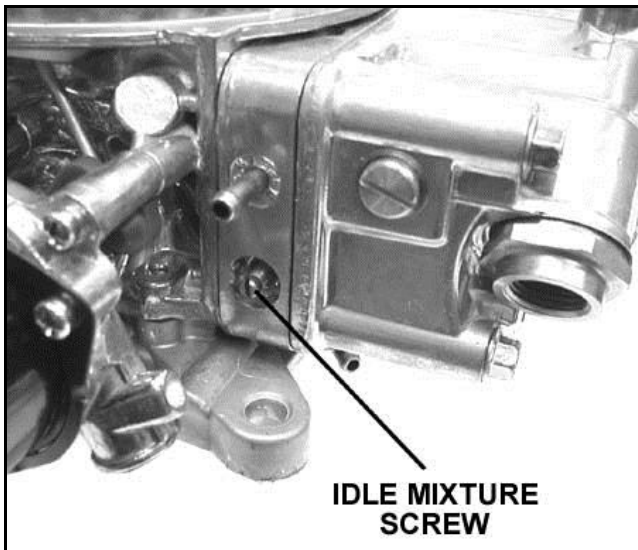

Figure 3
3. Adjust each idle mixture screw (Figures 3 & 4) 1/8 turn at a time, alternating between each screw. Turn them equally, until you achieve the highest possible vacuum reading without adjusting the curb idle speed screw. Turn screws in to lean the mixture. Turn them out to richen the mixture.